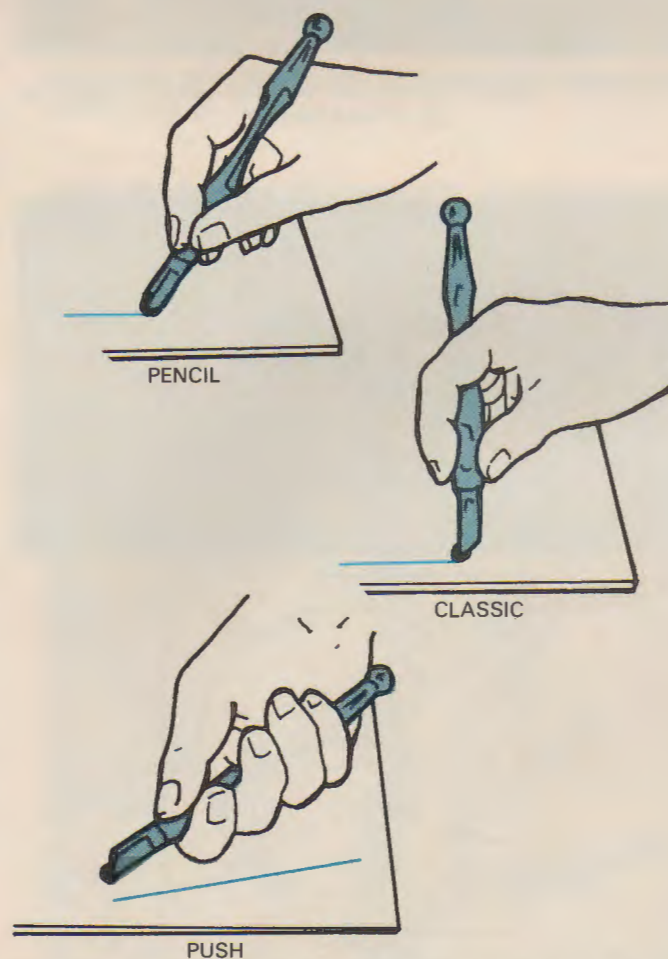

Fig. 15-5. The glass cutter may be pulled or pushed across the glass. Three common ways of holding the cutter are shown.
3. Push or pull the cutter across the surface of the glass, Fig. 15-5. Use enough pressure to score the glass. Lubricate the cutter wheel to keep it operating freely.